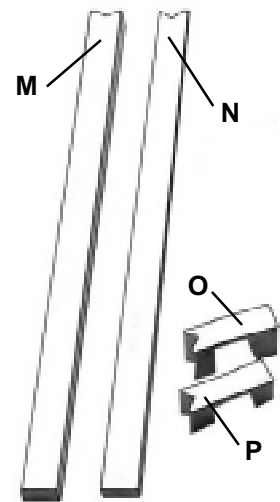

Figure 7
1. Verify that the nail path is empty and the **Pusher (O or P)** and **Thickness Compensator (M or N)**, Figure 7, have been removed. Use the **magnet** on the rod from the tool box to clear the nail path of any loose **Nails**.